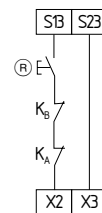

Fig. 4
**External reset button (with edge detection) (see Fig. 4)**